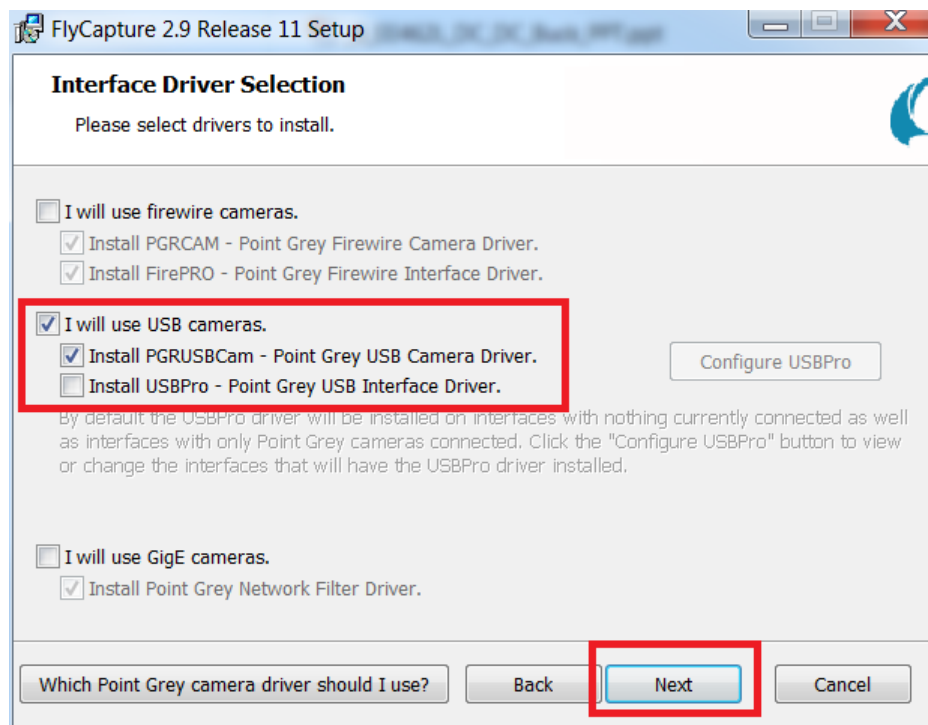

Figure 2-9. Camera Interface Selection for FlyCapture2 SDK
9. Pick the camera interface that will be used. For the 3D Scanner Reference Design, the USB interface is utilized. Select "I will use USB cameras," uncheck the box "Install USBPro", and then click the "Next" button. The "Next" button and USB selection is shown in Figure 2-9.